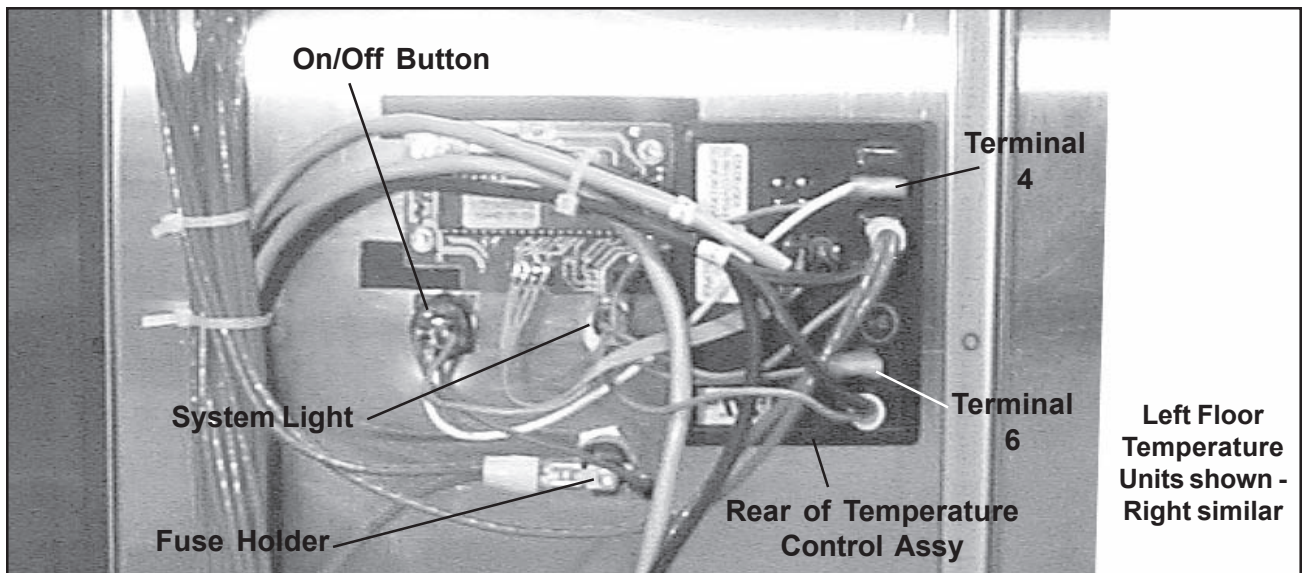

Figure 114. Inside View of Floor Temperature On/Off Button and Related Components
4. Dis-connect the on/off button red wire from the side terminal on the fuse holder (Figure 114).
8. Connect this spade connector to the rear of the system light (Figures 114 and 115).